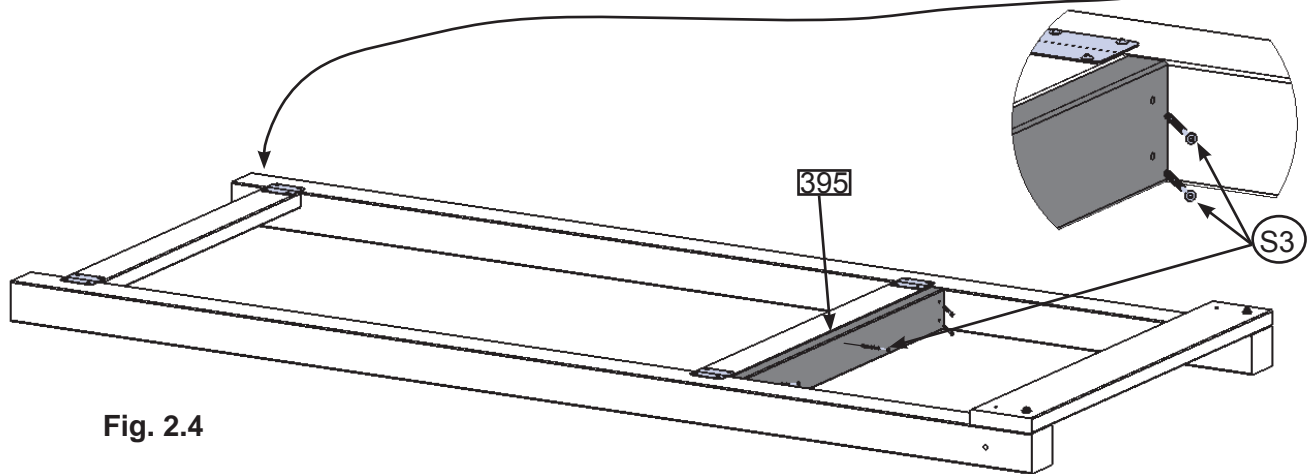

Fig. 2.4
B: Attach one (395) between each (392), flush to top of (394), as shown in fig. 2.4.